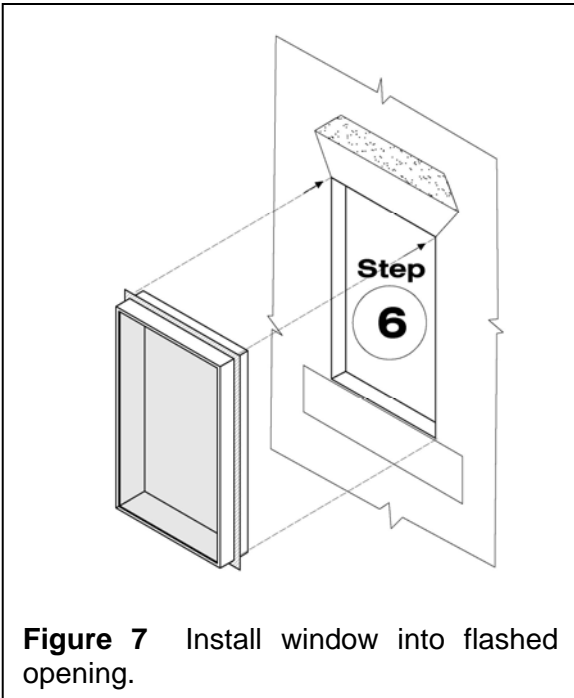

Figure 7 Install window into flashed opening.
Step 6. Install window in opening (see Figure 7).